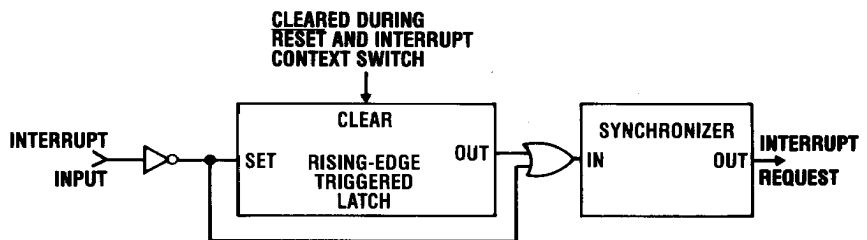

Figure 2 — Interrupt Inputs
- Two hundred fifty-six (256) bytes of on-chip RAM eliminates the need for external RAM chips for many small-system applications.
- An interrupt controller/synchronizer is integrated on-chip to eliminate circuitry normally required to interface asynchronous interrupt pulses to the CPU (see Figure 2).